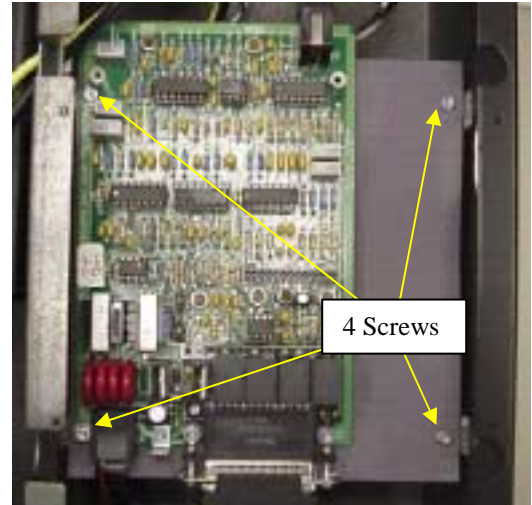

Figure 4
- b. Remove the four screws that hold the main board of the tone panel and the cardboard spacer from the chassis. Set aside the carton spacer and screws. (Fig 4)
Remove the four screws that hold the carton spacer from chassis. Set aside screws and carton spacer. (Fig. 4)